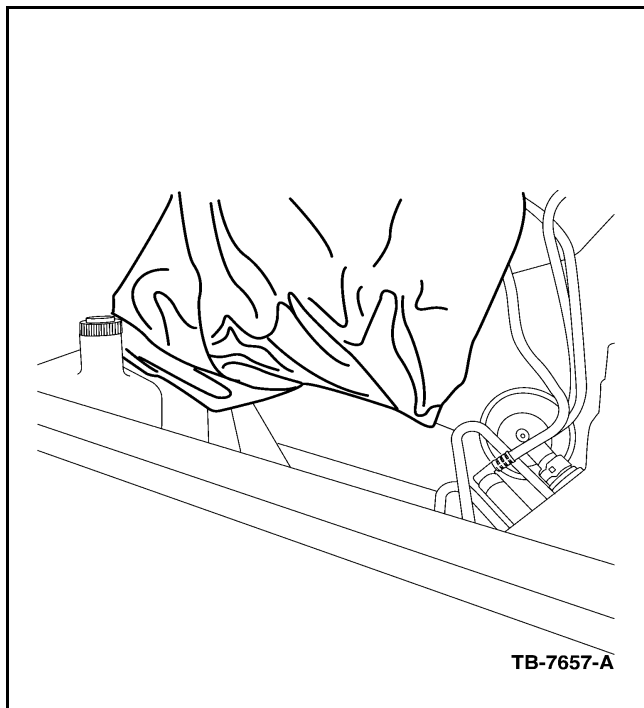

Figure 7 - Article 03-18-4
12. Using three wire ties and the three holes along the bottom of the splash shield, secure the bottom edge of the splash shield to the aluminum frame rail (Figure 7)